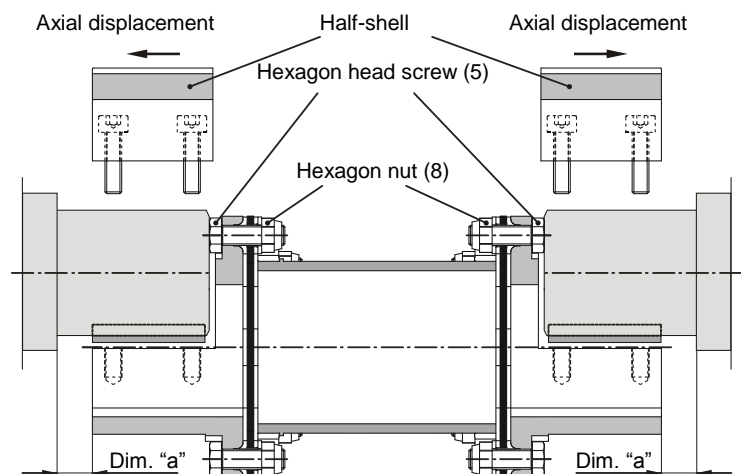

Fig. 8
On Type 951.8_0, radial installation is only possible if the half-shell is axially moved by a minimum dimension "a" (Fig. 8 / Table 8).
- c) Place the coupling from above onto the shafts and pre-assemble it with the respective half-shells (Fig. 8).